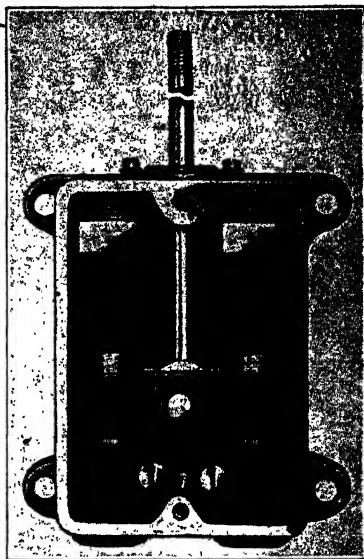
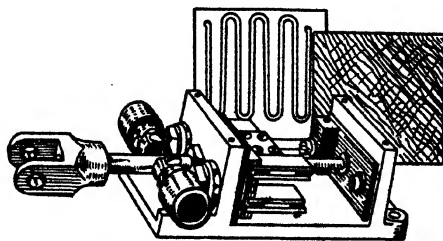
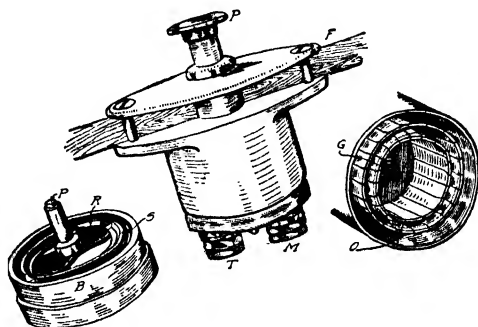

Fig. 172. Remy Starting Switch
Fig. 173. Dean Knife Starting Switch
Fig. 174. Gray and Davis Button Starting Switch
*Miscellaneous Starting Switches.* The type of switch used in connection with the Remy system is shown in Fig. 172. Both this and the Westinghouse switch described are known as butt-contact switches. The knife type of switch is also employed in several systems, Fig. 173 showing the Dean switch of this class. A somewhat unique form of contact is shown in the Gray and Davis switch, Fig. 174. There being no starting gears to mesh, it is only necessary to turn the current directly from the battery into the